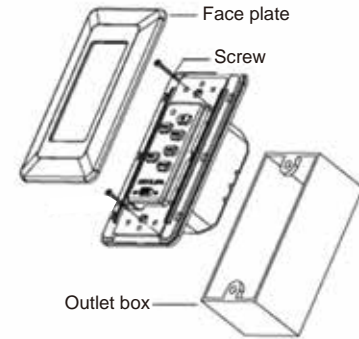

Fig. 32
- Step 1. Remove the existing wall plate and switch from the wall outlet box.(Fig.32)